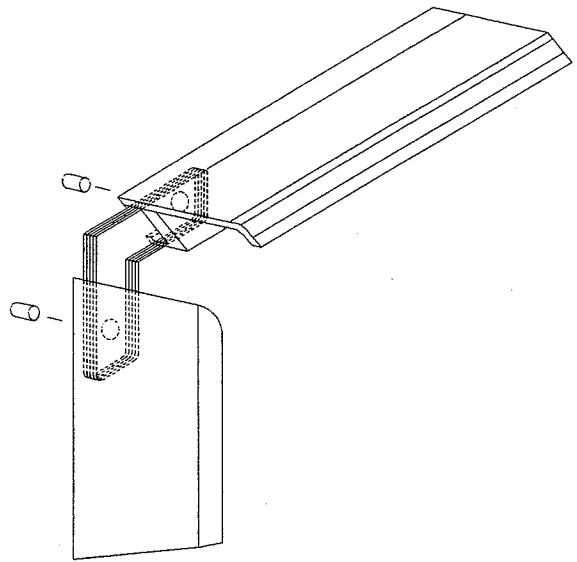

Figure 15
4. Assemble the faceplate trim, attaching the mitred corners with the corner brackets (see Figure 15).